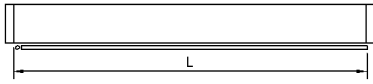

fig. 11
1. Screw two temporary cleats that are the full width of the opening to the ceiling (figure 10). Fix one cleat at the hinge end protruding 15mm into the opening. The other, at the opening end, must protrude 15mm into the opening also. The distance between these cleats must be L + 10mm as seen in figure 11.